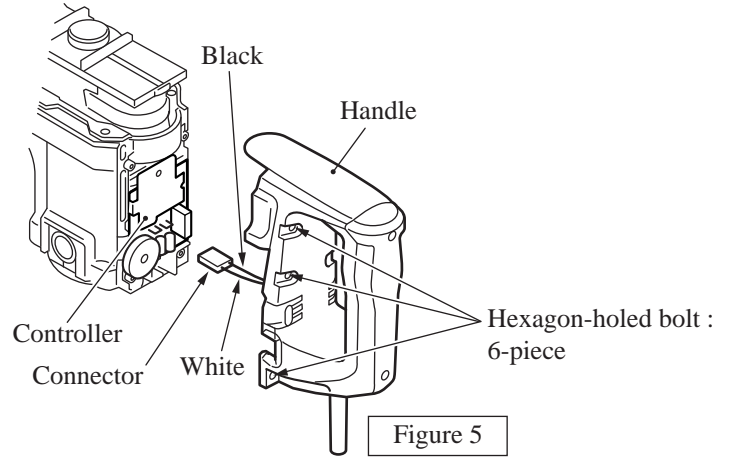

Figure 5
- c. Remove the hexagon-holed bolt and then remove the handle.(See the figure 5.)
- d. Remove the connector white and black. (See the figure 5.)